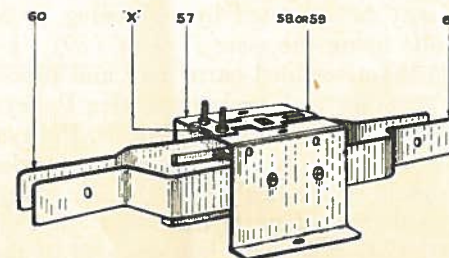

Fig. 1.
THE MECHANICAL UNIT. (See Figs. 1, 2, 3.)
Assemble two Film Carrier Arms (60) and 1 Gate Pad (58) or (59) on Mechanical Stand (57) as indicated in Fig. 1. Half-inch Bolts and Nuts should be used, care being taken that threaded portions are as shown, viz., outside on top, and inside on the two sides. Now thread a film, with its pictures upside down, between the Gate Pad and Mechanical Stand where marked "X" on drawing. The film should pull through easily, but not